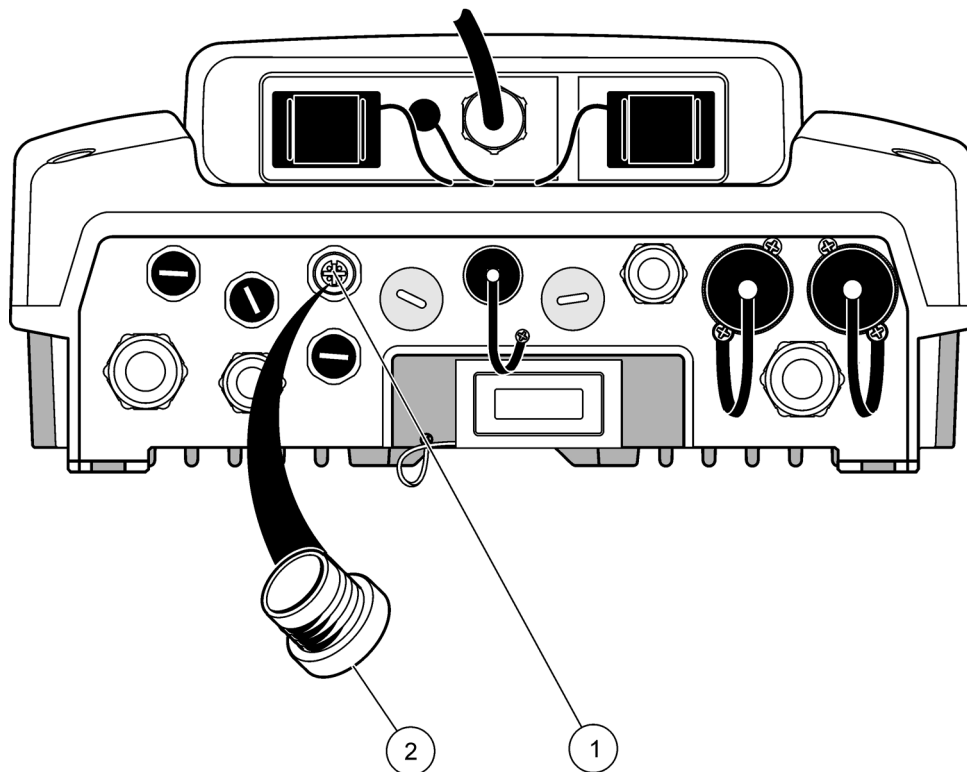

Figure 33 Removing the protective cover
1. Unscrew the protective cover on the controller socket (Figure 33). Retain the protective cover. When you remove the probe, re-fit the protective cover.